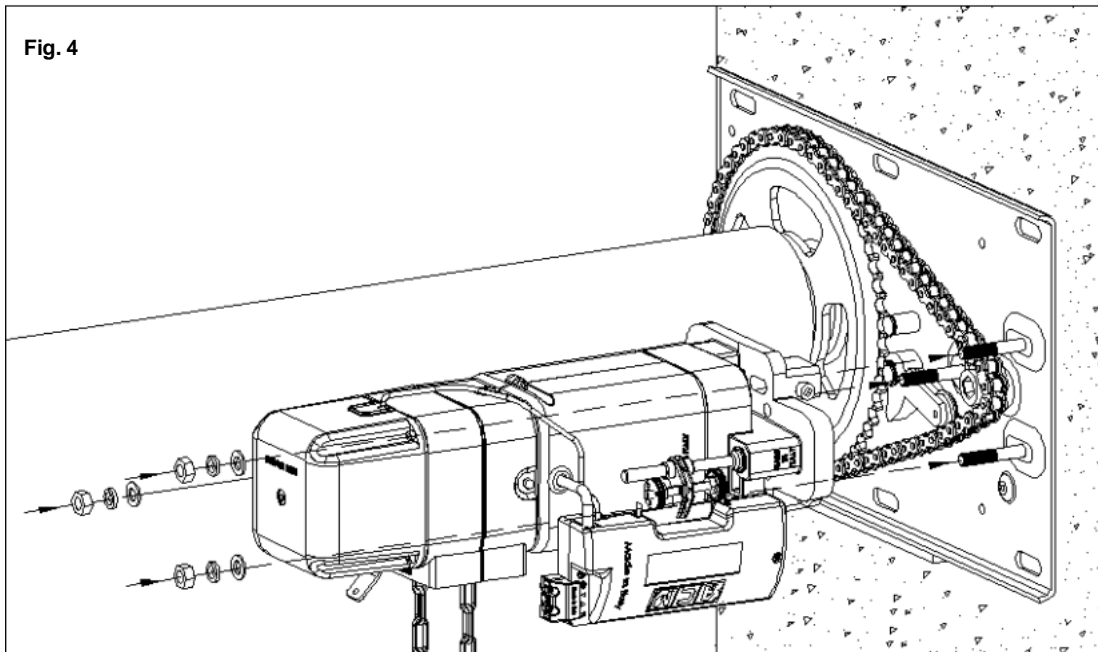
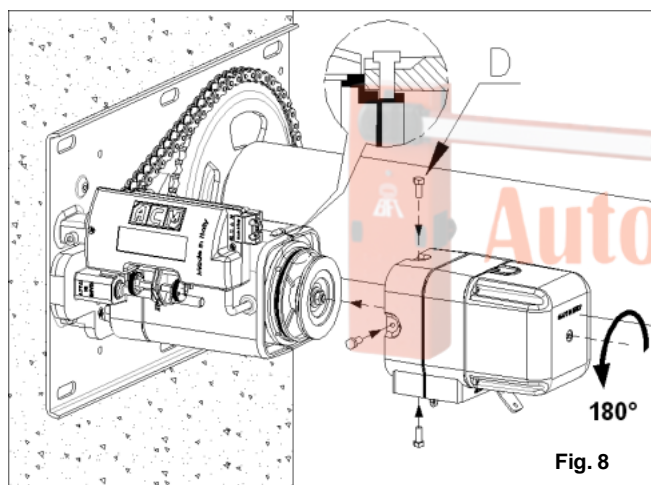

Fig. 4
Fig. 8
Il motoriduttore fornito è configurato per un'installazione a destra della serranda vista dall'interno. Il sistema è comunque predisposto per essere installato sia a destra che a sinistra come mostrato in figura 8 e 9. Dopo aver fissato l'asse di avvolgimento, procedere al montaggio del motoriduttore sulla staffa di trasmissione facendo combaciare i tre perni con le rispettive sedi del riduttore (vedi fig.4). A questo punto spingere il motore a battuta sulla staffa, facendo incastrare l'albero esagonale di trascinamento nella sede del pignone dentato. Serrare il motoriduttore mediante i tre dadi M10.
The gearmotor provided is configured for installation to the right of the shutter seen from inside. However the system is arranged to be installed on both right and left as shown in Fig. 8 and 9. After fixing the winding shaft, assemble the motor on the bracket transmission by matching the three pins with the respective locations of the gear unit (see Figure 4). At this point push the stop bracket on the engine, fitting the trap hex drive shaft in the seat of the toothed pinion. Tighten the gear motor using the three M10 nuts.
**EN** - For the configuration on the left of the gear motor, proceed as follows: Unscrew the 4 screws (D) shown in Figure 8 to release the electric brake assembly. Rotate the brake assembly 180° rotation in such a way that the chain, used for the manual operation, is facing perpendicularly downward. At this point push the brake assembly to overcome the resistance of the internal spring and proceed to tighten the 4 screws that were previously loosened. **Caution:** verify that the 4 screws fit properly into the groove of the electric motor as shown in the Figure 8 detail. This operation is essential for the proper functioning of the electric brake assembly.